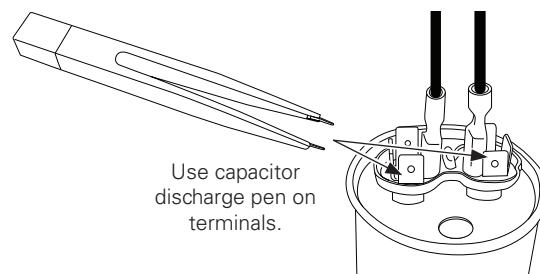

Fig. 2, Capacitor Discharge Pen
4. In a typical de-powered unit, the transformer winding should be shorting out the cap to discharge it and zero volts should be the norm. Using the true RMS meter, measure between the terminals of the capacitor to ensure the voltage is zero. If the voltage is not zero, apply a capacitor discharge pen (**Fig. 2**) until the voltage drops to zero.